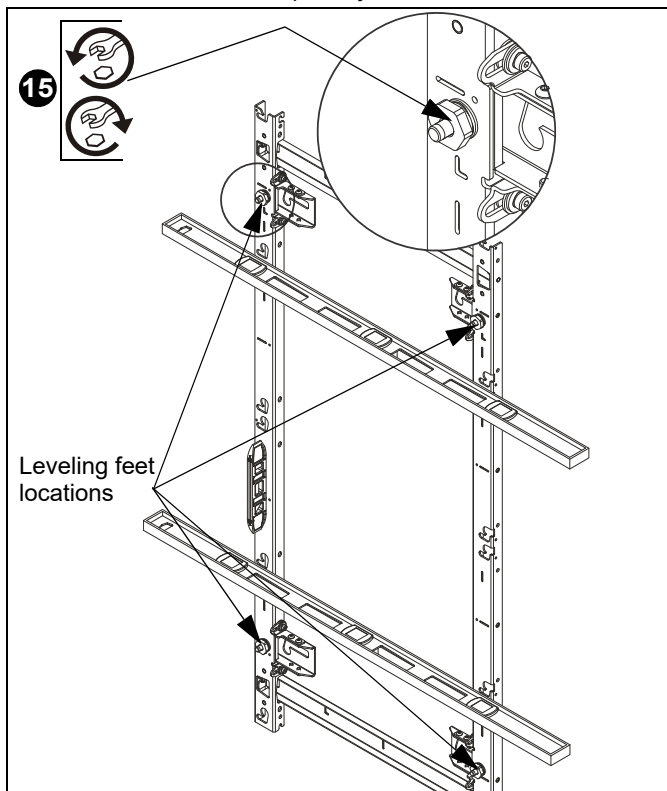

Figure 12
15. Using a level on the front of the mount in various places, use a 1" socket and T-handle driver to adjust the leveling feet on the mount until the mount is plumb. (See Figure 12)